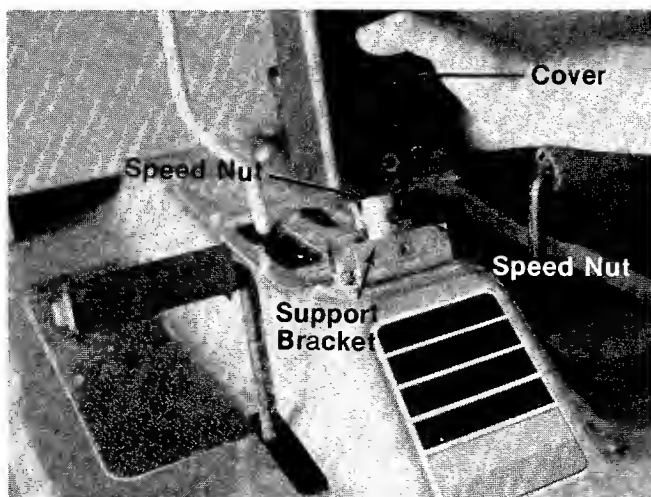

FIGURE 3.
5. Place two speed nuts on support bracket as shown in figure 3.
6. Place the cover over the steering tube assembly. Line up holes in cover with speed nuts. See figure 3.